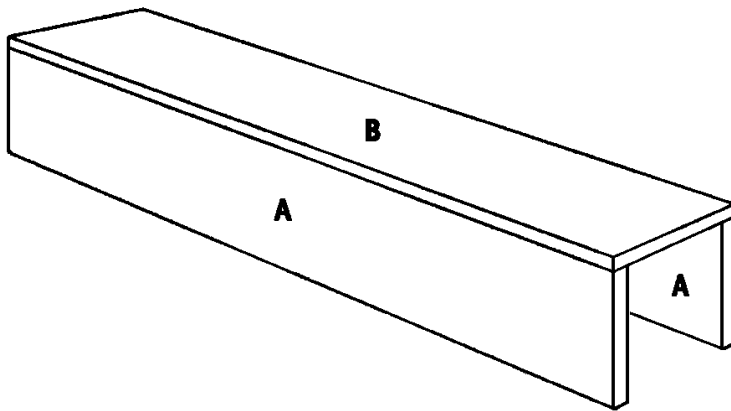
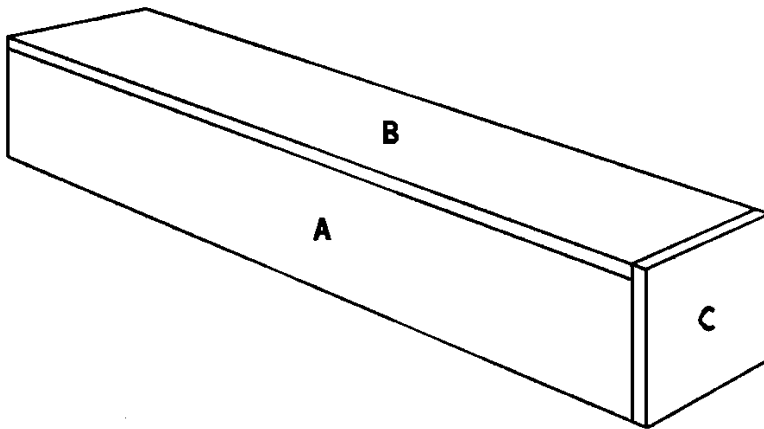

Figure 1
Figure 2
1. Cut two top and bottom (A) from 1 x 8 pine, each measuring 36 inches.
2. Cut one Front (B) from 1 x 8 pine, measuring 36 inches.
4. Apply glue to the top edges of the Top/Bottom (A). Place the Front (B) over the top edges of the Top/Bottom (A), as shown in *Figure 1*. Nail through the Front (B) into the edges of the Top/ Bottom (A), using 1-1/2" finishing nails spaced 5 inches apart.
5. Cut two Sides (C) from 1 x 8 pine, each measuring 7-1/4 inches.
6. Apply glue on the meeting surfaces, and attach one Side (C) to the one open end of the assembly, as shown in *Figure 2*. Nail through the Side (C) into the edges of the Top/Bottoms (A) and Front (B), using two 1-1/2" nails on each joint.
7. Repeat Step 6 to attach the remaining Side (C) to the other open end of the assembly.